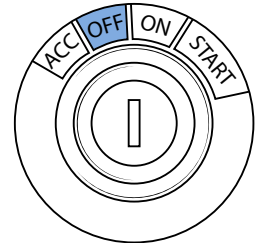

Figure 6 - Starter switch
5. Turn the starter switch to the "OFF" position (**Figure 6**).